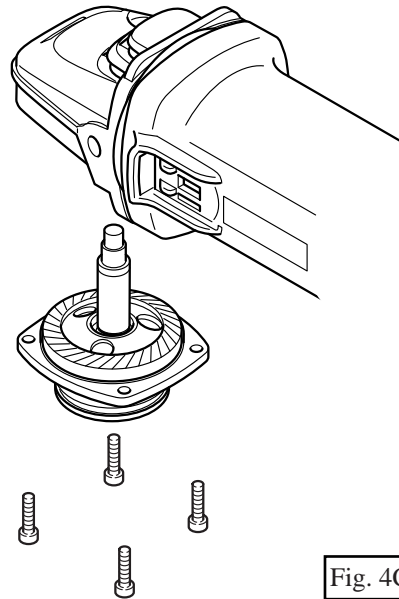

Fig. 4C
- (5) Assemble the gear section to gear housing by fastening with 4 pcs. of hex socket head bolts M4 x 16 as illustrated in Fig. 4C.